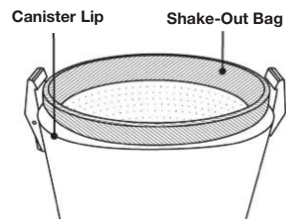

Fig. 15
7. Remove the Shake-Out Bag from the Canister Lip and shake out any excess dirt in a large bin or appropriate area. Ensure the Shake-Out Bag is carefully re-inserted in place (Fig. 15).